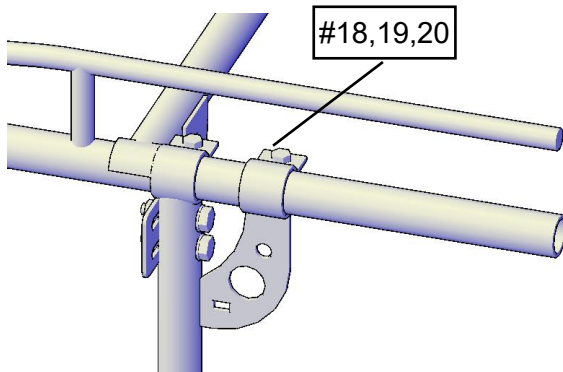

Fig.7
Attach using the 2-M12x50 bolts(#18) ,flat washer(20) and Nut(19) (see the Accessory bolt set "B") Tighten snug but not completely. (Fig.7)